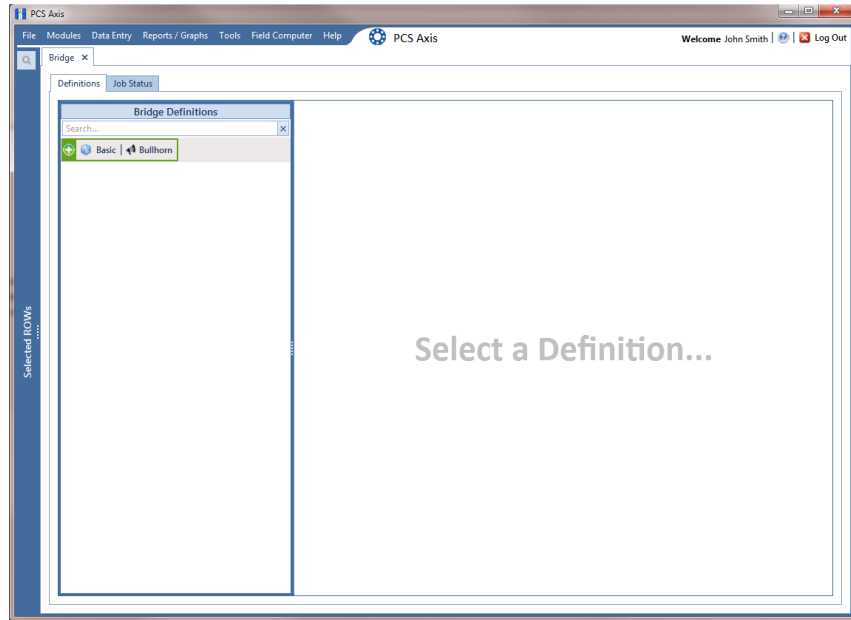

Figure 10-57. Bridge
- 2 Click **Tools** > **Bridge** to open the *Bridge* window (Figure 10-57).